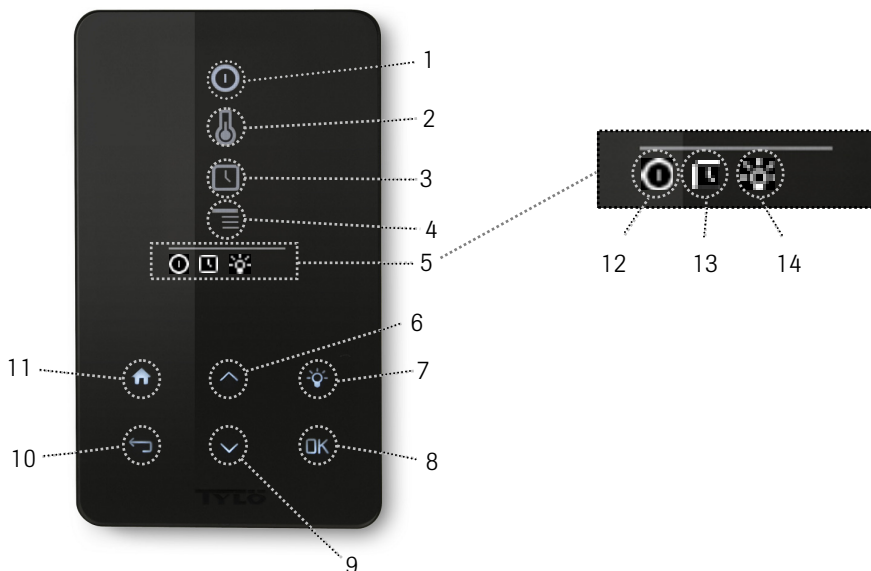

Figure 6
11. Home – return to basic menu (fig. 6)